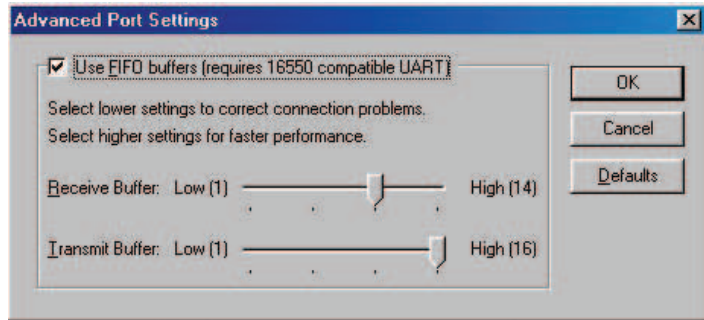

Figure 24
Step 6: In the **Advanced Port Settings** screen (Figure 24), Select the fields as shown.